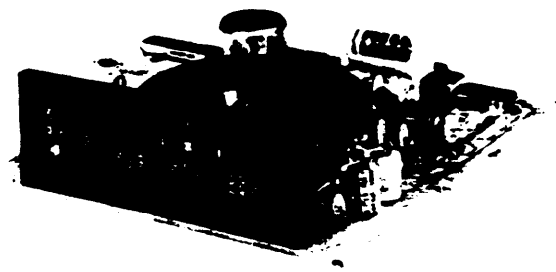

Fig. 10—FM Tuner Card
3.30 The FM Tuner card (Fig. 10) mounts in the TUNER position of the card file and provides a source of FM background music to the system. It will also supply the music for the music-on-hold feature of a collocated telephone system, when required. To accomplish this, the tuner card provides two outputs: the first is a 600-ohm, low-level music source and the second is a high-level 8-ohm signal providing one watt of power. The tuner incorporates a built-in speaker for monitoring purposes, automatic frequency control and a visual tuning indicator.